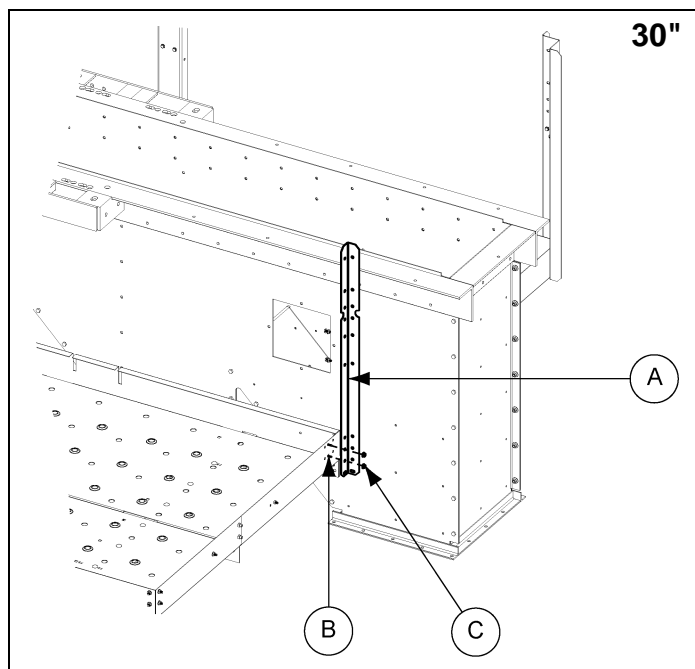

Figure 10E
1. Install side post (HP1648HP) (A) to decking. *(See Figure 10E.)*